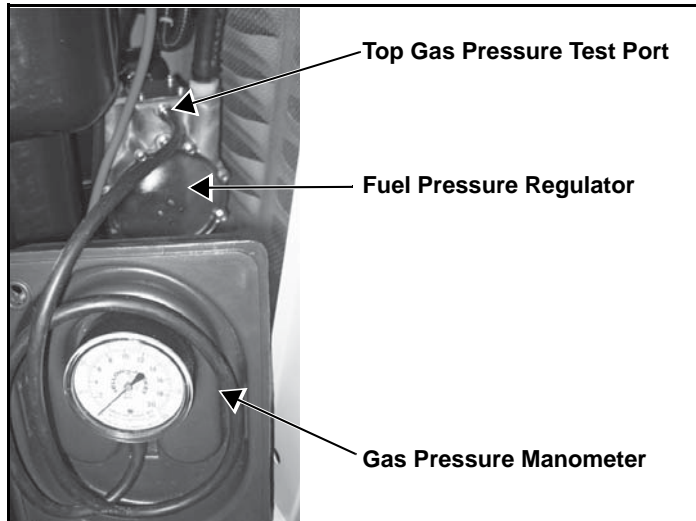

Figure 5-5. Check Pressure with Manometer
- Install gas pressure tester (manometer). See Figure 5-5.